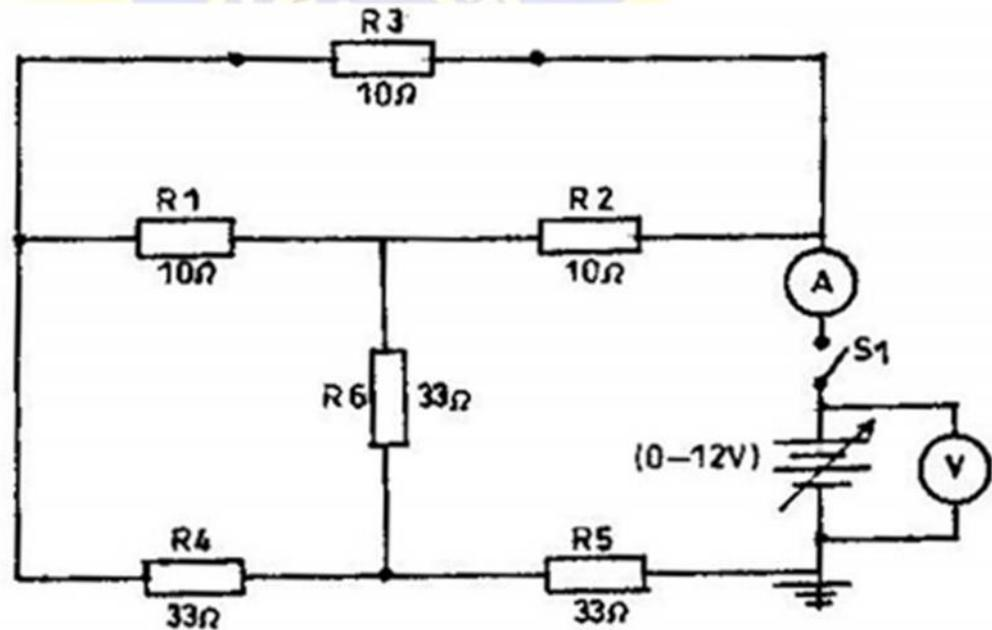

Figure 2
- (a) Connect the circuit diagram as shown in figure 2.